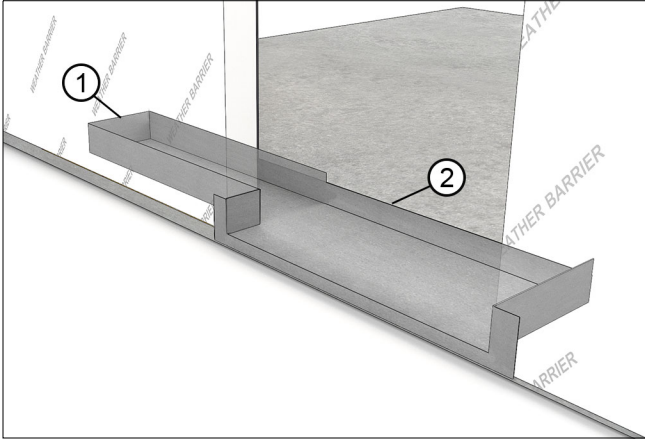

Figure 11 Pocket panning for Performance or Flush sill shown.
3. Pocket panning must have a minimum of 4" (102) end dam on all sides of the pocket. The rear leg of panning must be as high as the interior sill liner. See Figure 11